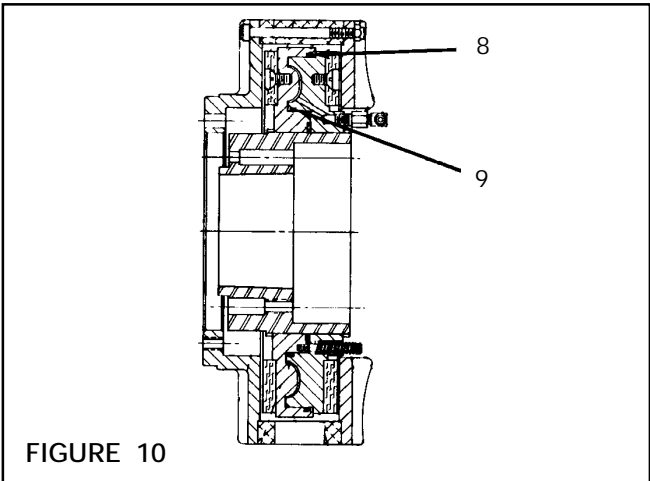

FIGURE 10
2. Remove old O-rings (Items 8 & 9) and clean o-ring contact surfaces with fresh safety solvent. (See Fig. 10).